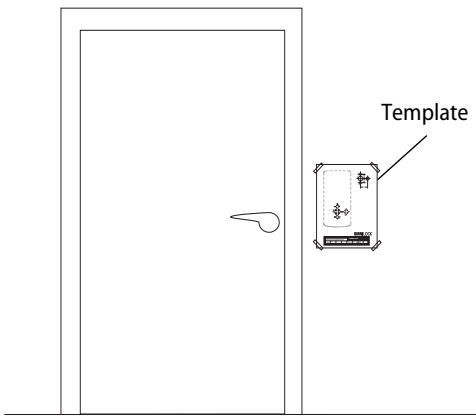

Figure 1 Applying the template
- 3 Tape the template to the wall. See Figure 1.